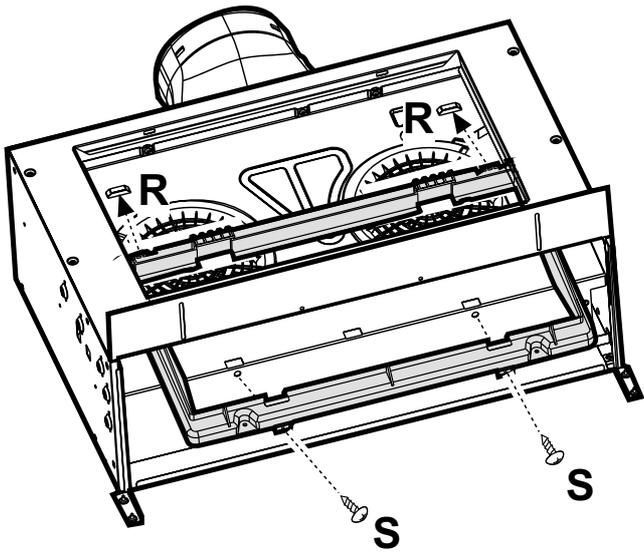

Fig. 3
Where it is not possible to discharge cooking fumes and vapours externally, the cooker hood may be used in the **filter version** by mounting an active carbon filter and the deflector F on the connection ring placed on the exit perforation B (Fig. 3), the fumes and vapours are recycled via the deflector.
using 4 screws (fig 3). This fairing must be fitted prior to installation of cooker hood BODY into cabinet.
2. Fix the air exit connector B above the cooker hood body (fig. 3).
Fix the filter holder frame inside the cooker hood, firstly above on the rings R set in the body, then on the base using the two screws S (fig. 3).